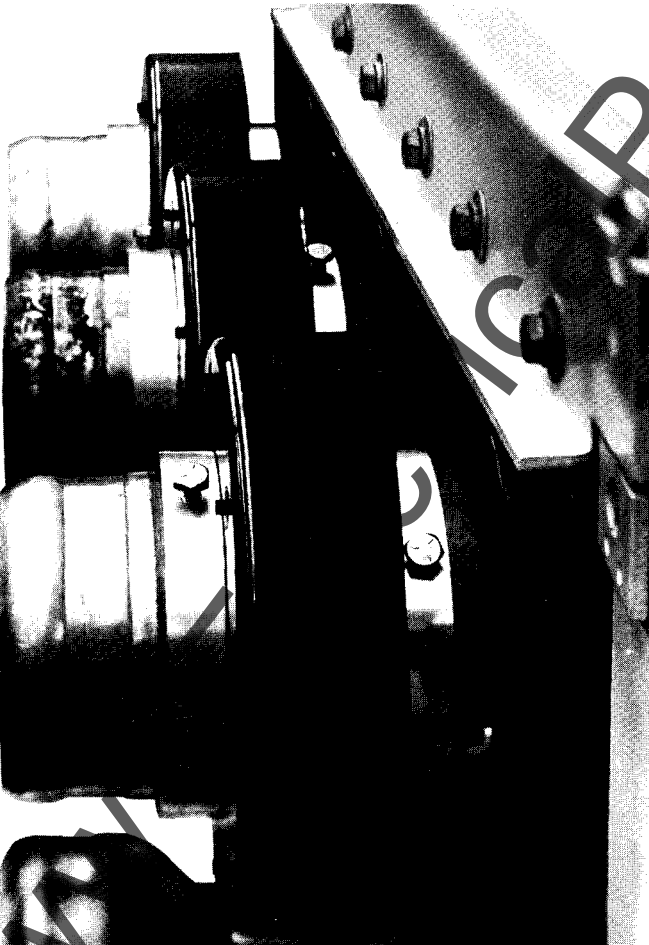
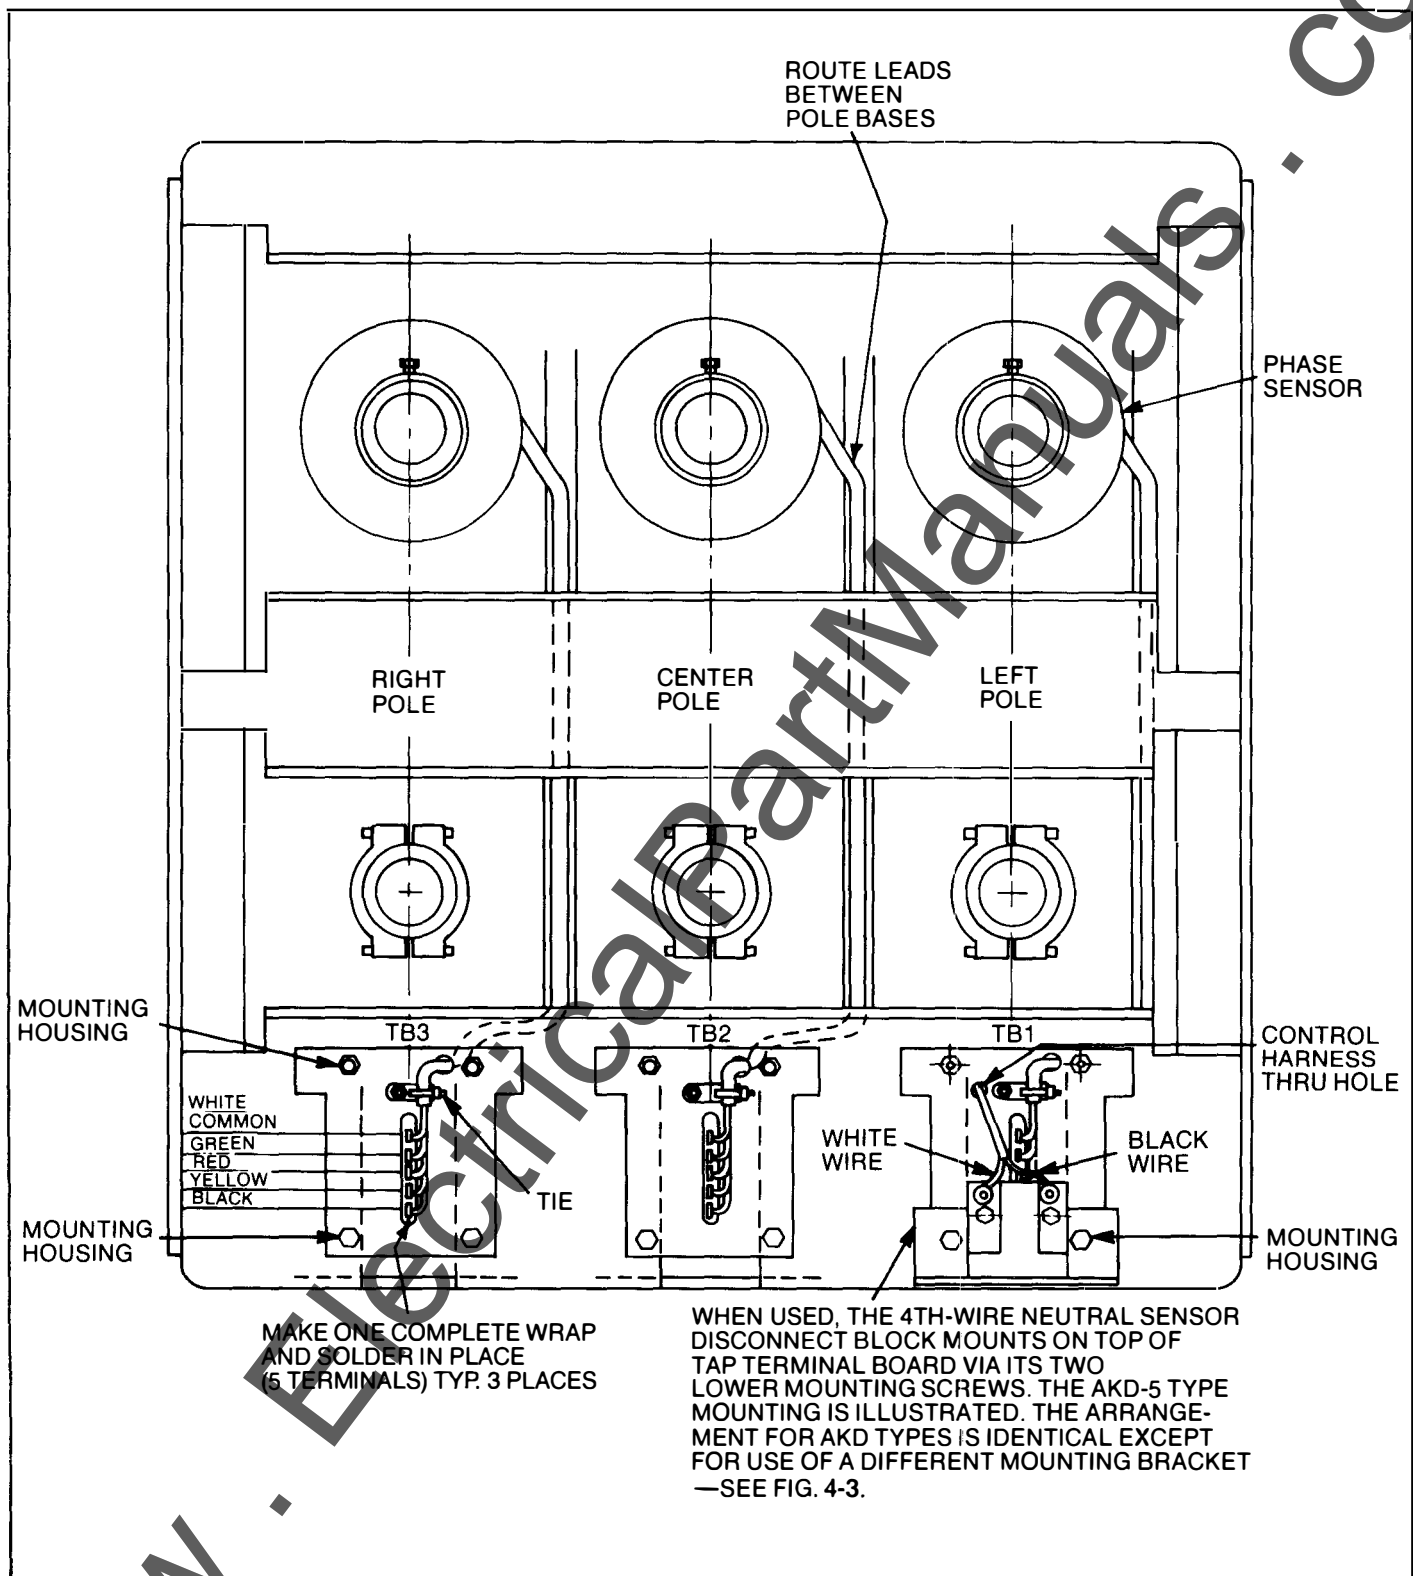

Fig. 3-6. Phase sensors installed — AK-75/100
Fig. 3-8. Typical AK-75/100 backframe conversion — rear view
2. The MicroVersaTrip® RMS- 9 sensors mount on the upper-breaker studs. The sensors are held on the stud with the locking rings, as shown in Fig. 3-6. Leave enough of the stud exposed for the primary fingers to engage. Engage the sensor's anti-turn lugs with the notch in the locking ring. Before tightening the locking rings, position each sensor so that its leads will exit between the pole bases, as shown in Fig. 3-8.
3. Mount the three sensor terminal boards to the rear of the back frame as shown in Fig. 3-8, using the hardware provided.
4. Form each sensor's leads downward between the pole bases and thru the hole in its terminal board as shown in Fig. 3-8. Wire tie and solder to the terminals as indicated. Be sure to position wire colors as shown.
The 4th-wire disconnect for the AKR-AKR-75/100 Draw-out breaker mounts to the lower back frame as shown in Fig. 3-8.
2. If the disconnect is being added, mount the disconnect assembly as shown in Fig. 3-8.